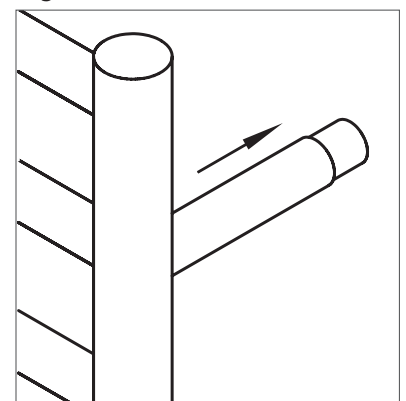

Fig 7.0
- Press the towel rail onto the mounting inserts gradually, checking that each leg is lined up with the mounting inserts before applying force. see Fig 7.0